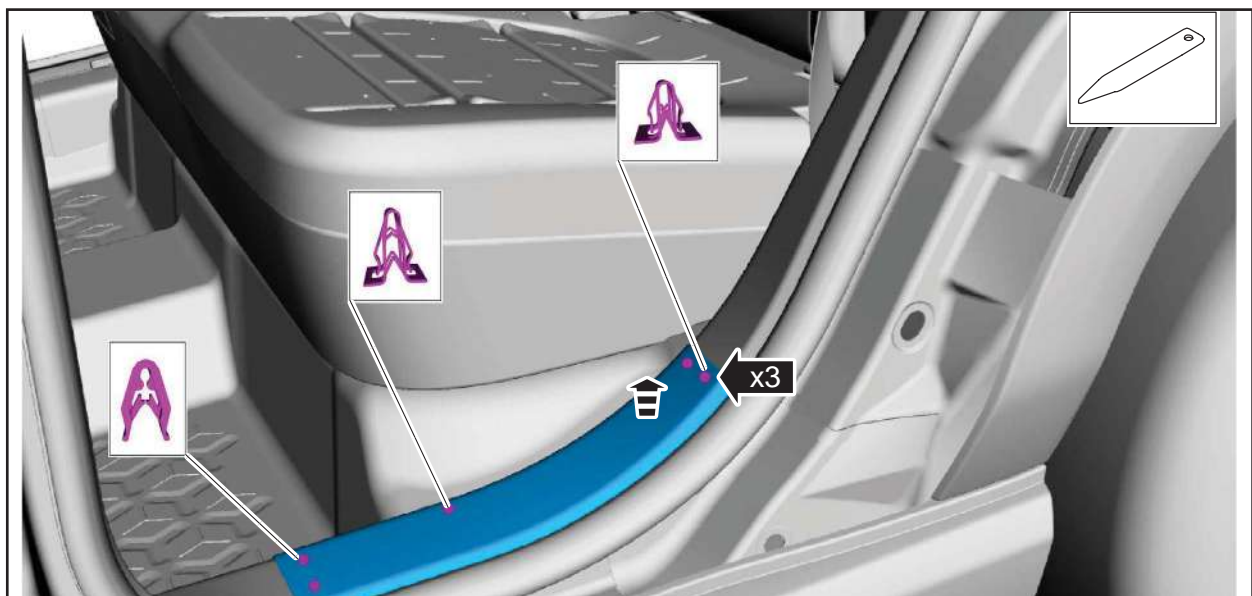

FIGURE 10
10. Remove the LH rear scuff plate trim panel. See Figure 10.